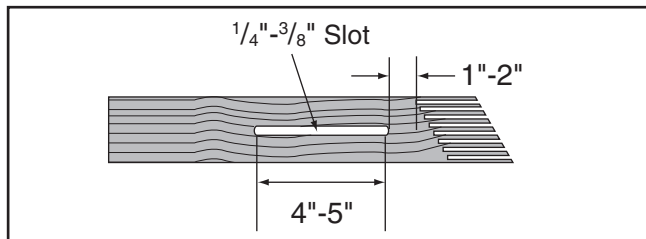

Figure 68. Slot routed in featherboard.
4. Rout a $\frac{1}{4}$ "- $\frac{3}{8}$ " wide slot 4"-5" long in the workpiece and 1"-2" from the short end of the featherboard (see **Figure 68**).